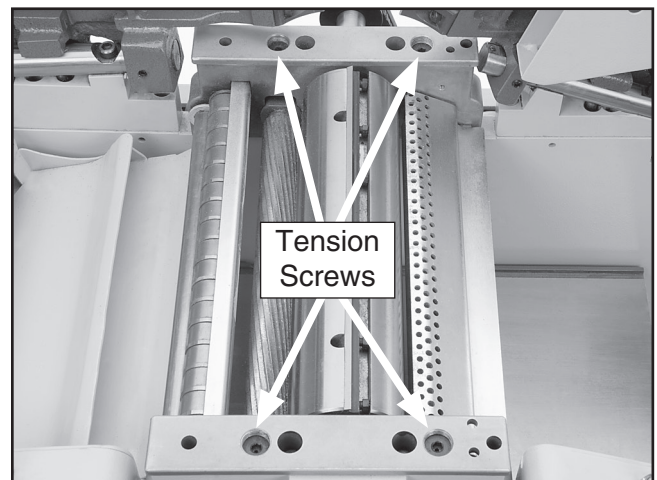

Figure 78. Spring tension screws.
- Locate the four adjustment screws located on the top of the planer, as shown in **Figure 78**.